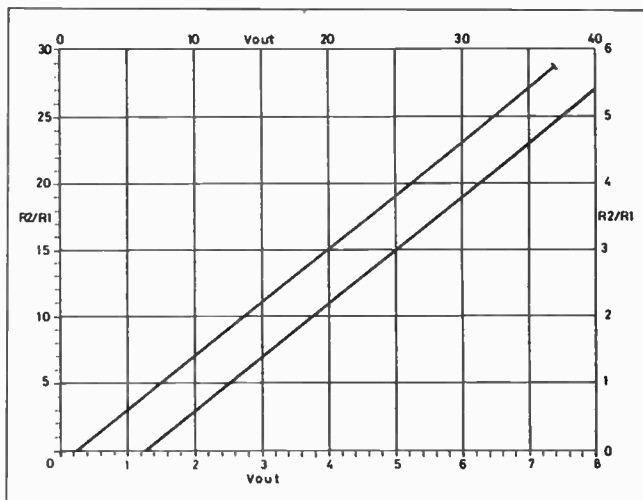

Fig. 3. Voltage outputs plotted against potential divider R2/R1 values.
1.25 horizontal, 0 vertical and 37 horizontal, 28.6 vertical. Joining these with a straight line (Fig. 3, upper curve) enables any intermediate values to be read off.